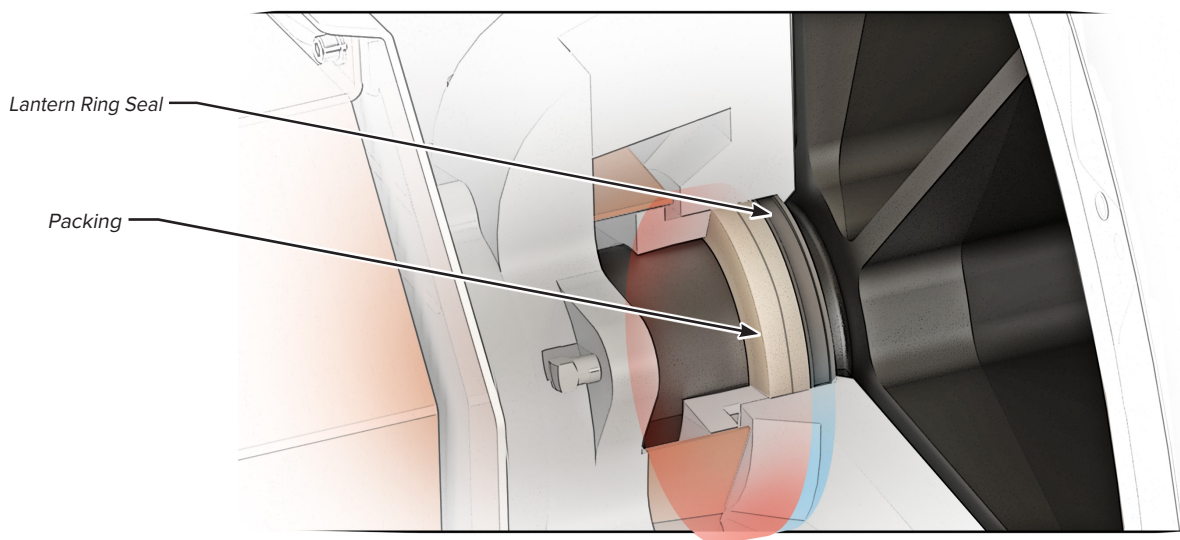

FIGURE 15
19. Insert new lantern ring into packing gland with the chamfered edge facing the rotor (Figure 15). A stamped “R” may additionally be found on the rotor facing side of the lantern ring.